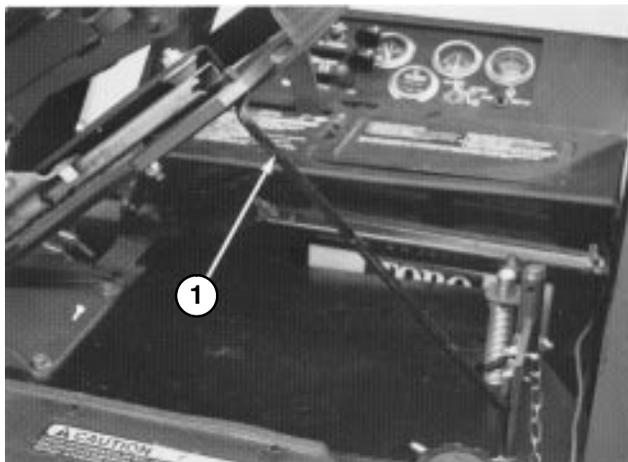

Figure 7
14. Hold seat up with seat support rod (Fig. 7).
16. Hold seat up with seat support rod (Fig. 7).